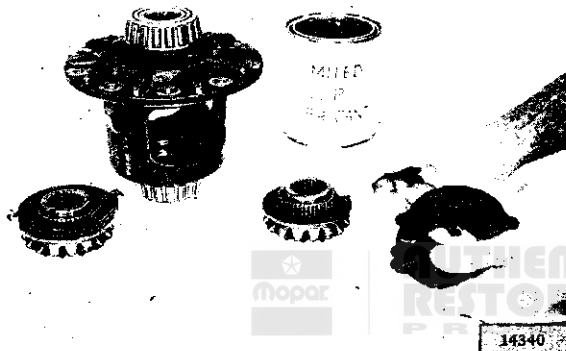

FIG. N-53—LUBRICATING TRAC-LOK COMPONENTS
b. Prelubricate the thrust face of the side gear, assemble the plates and discs to the side gear splines, prelubing each part as shown with the specified lubricant. Both stacks. See Fig. N-53.